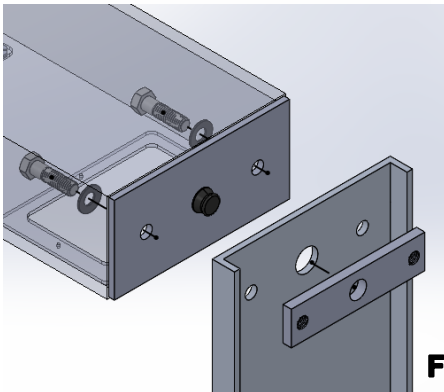

Fig. 3
- Align the fixture mount with the pole's drilling pattern and secure it with two 1/2-13 bolts with sealing washer and the nut plate. Tighten to 30 lb-ft. **Fig. 3**